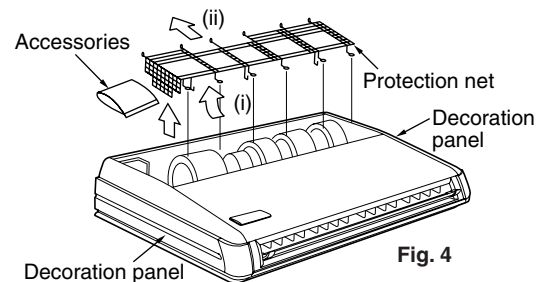

Fig. 4
- Raise one side of the protection net upwards (in the direction of the arrow (i)) and remove back (the arrow (ii)). **(Refer to Fig. 4, 5)**